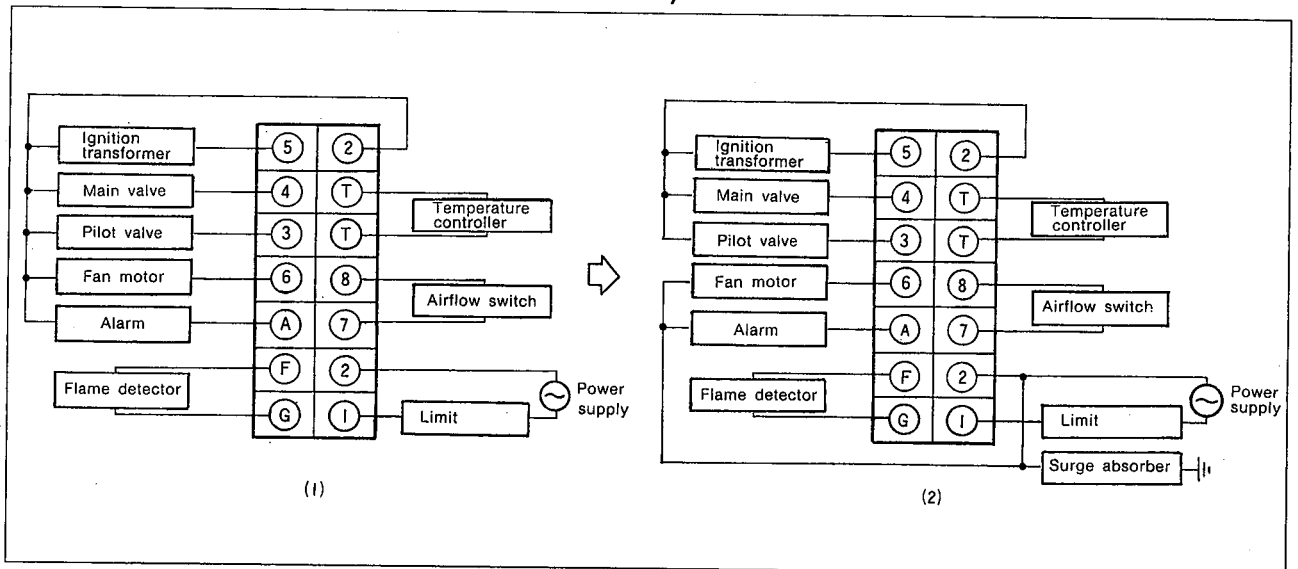

Fig. 8
- (1) Remove R8398D from the subbase.
- (2) Check if the connection is done to the subbase by (1) or (2) in Fig. 8, and reconnect R4750C as shown in (2), if the present connection is as shown in (1). Connection (2) is employable as it is. The surge absorber is used in the same way as described in 4 (5).
- (3) Plug R4750C into the subbase, and fix it by cover mounting screws. Now, this exchange work ends.